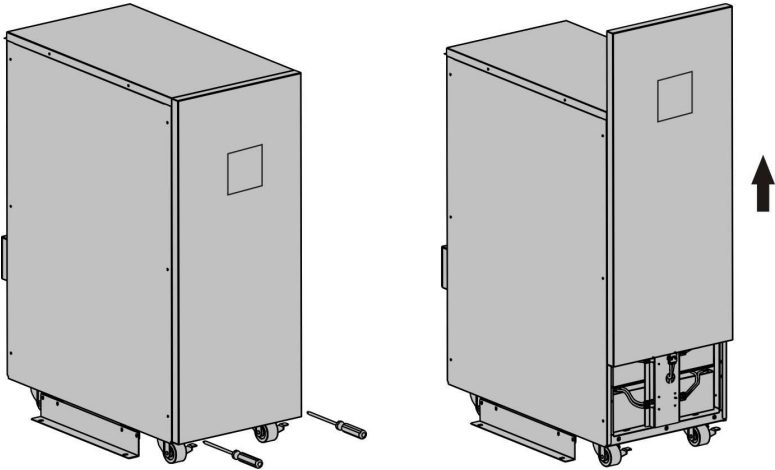

Fig. 8-1 Easy for Battery Replacement -Step 1
- 1) Remove the front panel and disconnect the connector on the LCD display board. See Fig. 8-1.